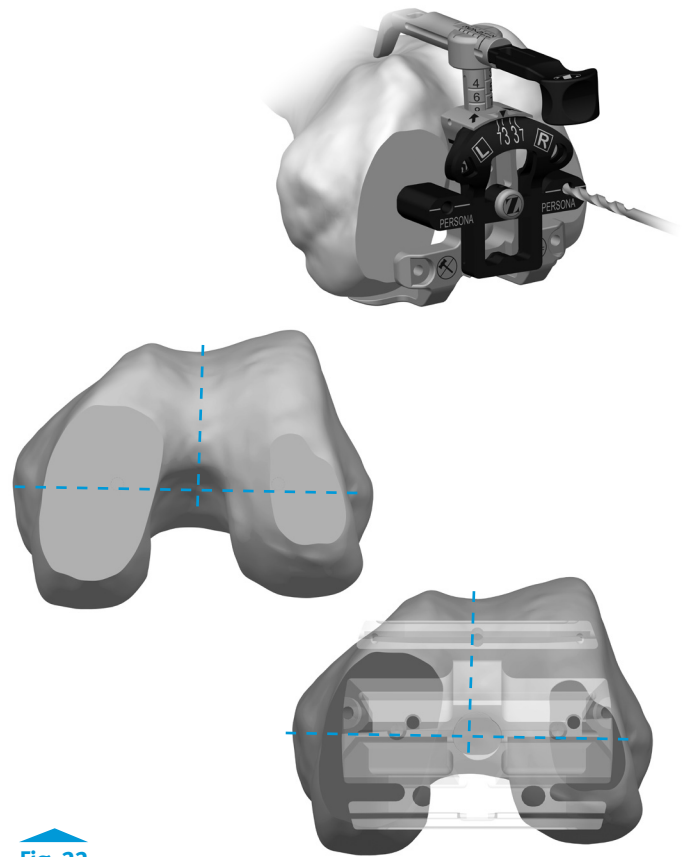

Fig. 22
- The *Persona* Posterior Referencing Sizer is used to size and set rotation without the spacer block in this step (Fig. 22).